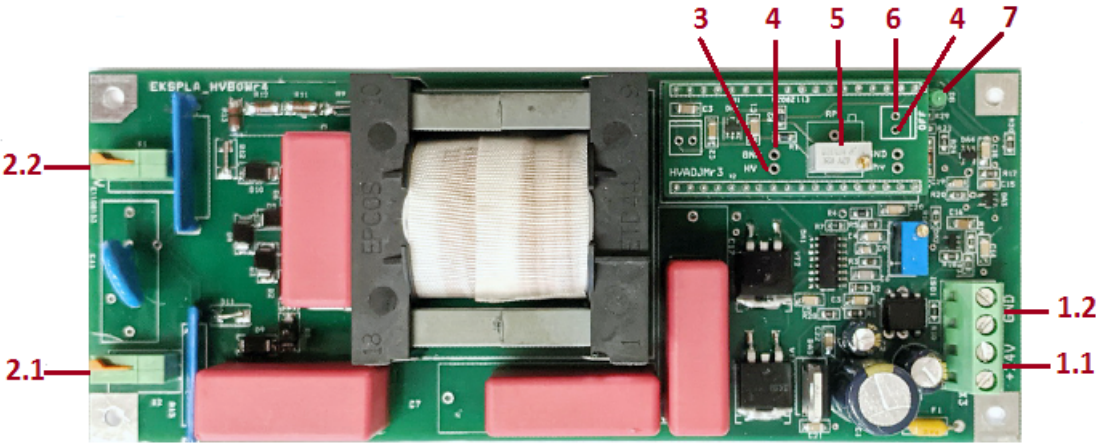

Figure 2. Top view of the HV power supply with potentiometer control
Set the output voltage using the potentiometer (**#5** in **Figure 2**). Ways to control of the output voltage:
2. Alternatively, measure the voltage between points **#3** and **#4** in **Figure 2**. This voltage converts to output voltage approximately as $1V \sim 1\text{ kV}$.